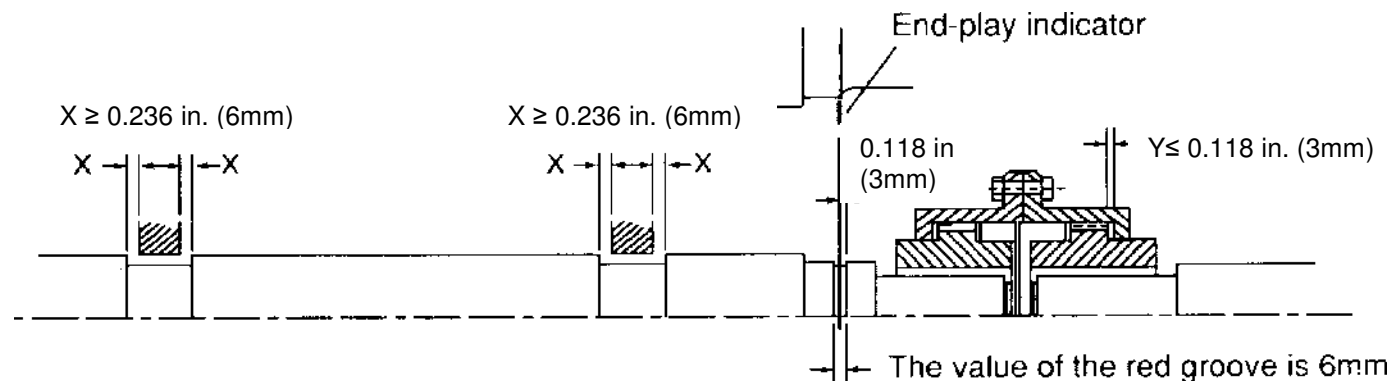

Fig. 6
- Unless otherwise specified, the designed end-play value  $X$  of the groove for TWMC motors in general is within 0.236 in. (6mm) as illustrated in Fig. 6. In essence, the endplay indicator is adjusted to point at the center of the groove or the drive-end shaft shoulder; thus  $X$  equals to  $\pm 0.236$  in (6mm) so, and the endplay value ( $Y$ ) of the couplings should equal or be smaller than 0.118 in. (3mm).